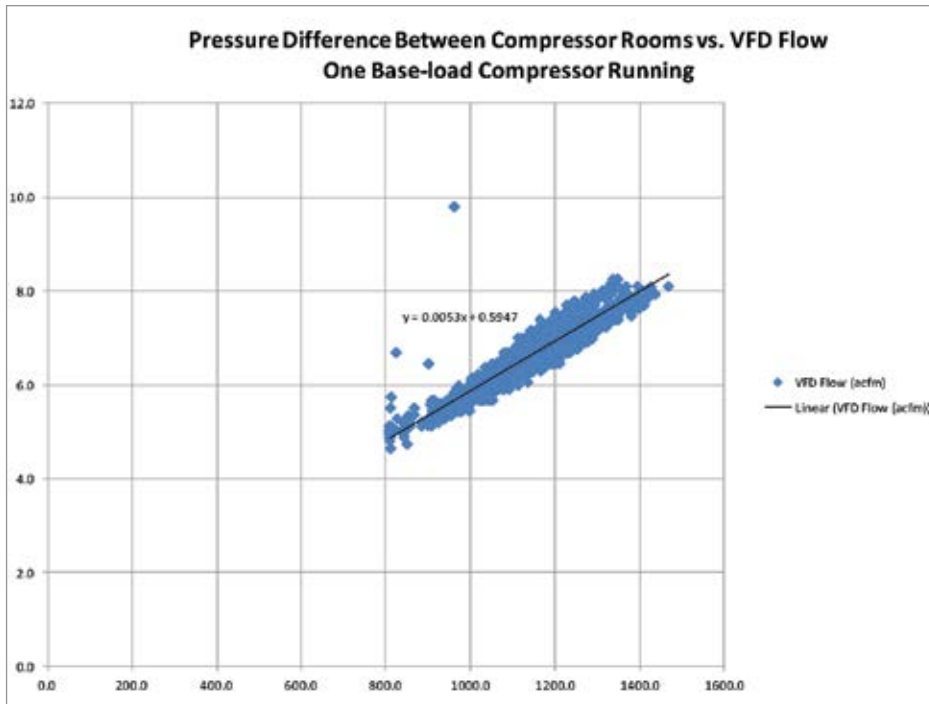

Figure 4. Data Trend Showing Dryer Pressure Differential as VFD Loads Up
- Pressure differential and dryer flow. Can be used to widen the sequencer pressure differential and avoid system pressure dips at max flow. See Figure 4. This system had the VFD sensing point ahead of the dryer and the sequencer downstream, no ideal. But we were able to avoid nuisance starts of fixed speed compressors by widening the sequencer pressure differential or moving the sensing location to downstream of the dryer.